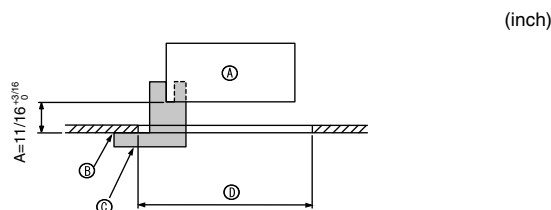
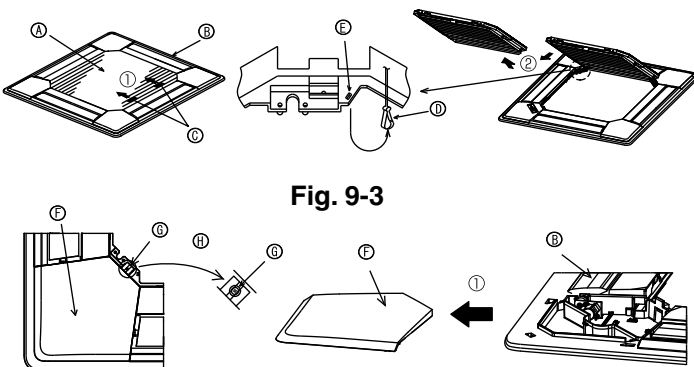

Fig. 9-2
Fig. 9-3
①	Grille	1	950 × 950 (mm), 37-3/8 × 37-3/8 (inch)
②	Screw with captive washer	4	M5 × 0.8 × 25
③	Gauge	1	(Divided into four parts)
④	Fastener	3
⑤	Screw	4	4 × 8
⑥	Screw	1	4 × 12
9.2. Preparing to attach the grille (Fig. 9-2)
- With the gauge ③ supplied with this kit, adjust and check the positioning of the unit relative to the ceiling. If the unit is not properly positioned relative to the ceiling, it may allow air leaks or cause condensation to collect.
- C Gauge ③ (inserted into the unit)
9.2.1. Removing the intake grille (Fig. 9-3)
- Slide the levers in the direction indicated by the arrows ① to open the intake grille.
- With the intake grille in the "open" position, remove the hinge of the intake grille from the grille as indicated by the arrows ②.
[Fig. 9-3] [Fig. 9-4]